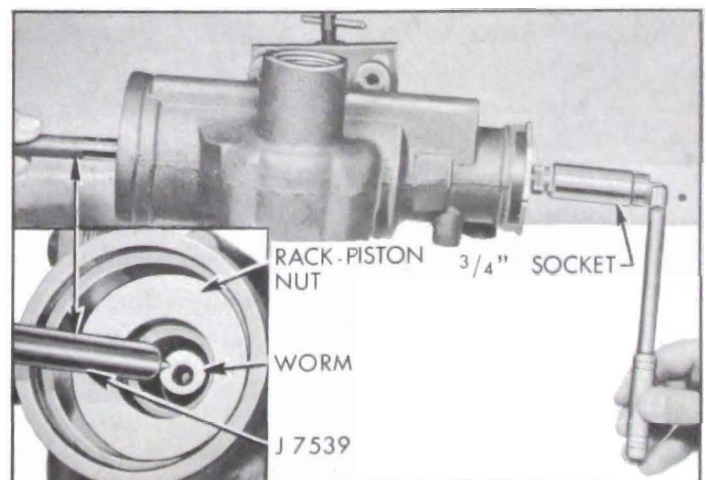

Figure 8-49—Removing Rack-Piston Nut From Housing
9. Insert Ball Retaining Tool J-7539 in end of worm. See Figure 8-49. Turn stub shaft so that rack-piston nut will go onto the tool and remove rack-piston nut from gear housing. Keep ball retaining tool completely through rack-piston nut to prevent balls from falling out.